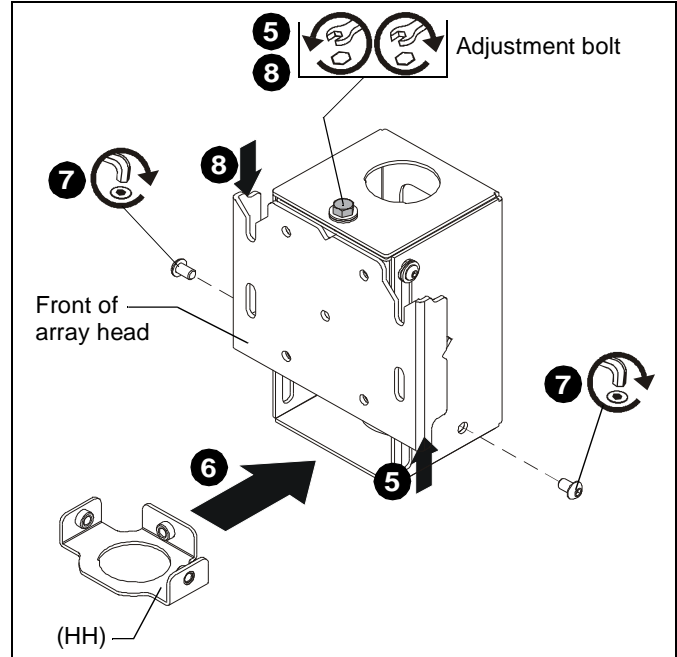

Figure 2
4. Turn array head upright. (See Figure 2)
5. Turn adjustment bolt on top of array head to slide plate up and enlarge opening on front of array head. (See Figure 2)
6. Insert lower set screw bracket (HH) into array head (FF) with three tabs towards sides and back. (See Figure 2)
7. Fasten bracket (HH) into place in bottom of array head using buttonhead screws (removed in Step 2) through sides of array head and into side tabs of bracket (HH). (See Figure 2)
8. Slide plate (raised in Step 5) back into position by turning adjustment bolt on top of array head. (See Figure 2)
9. Repeat Steps 1 through 8 for remaining array head (FF).